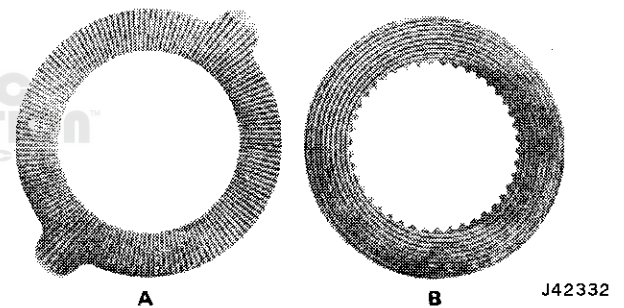

Fig. 2F-69 Clutch Plate and Disc Identification
Examples of radial groove clutch plate (A) and the concentric groove disc (B) are shown in figure 2F-69.